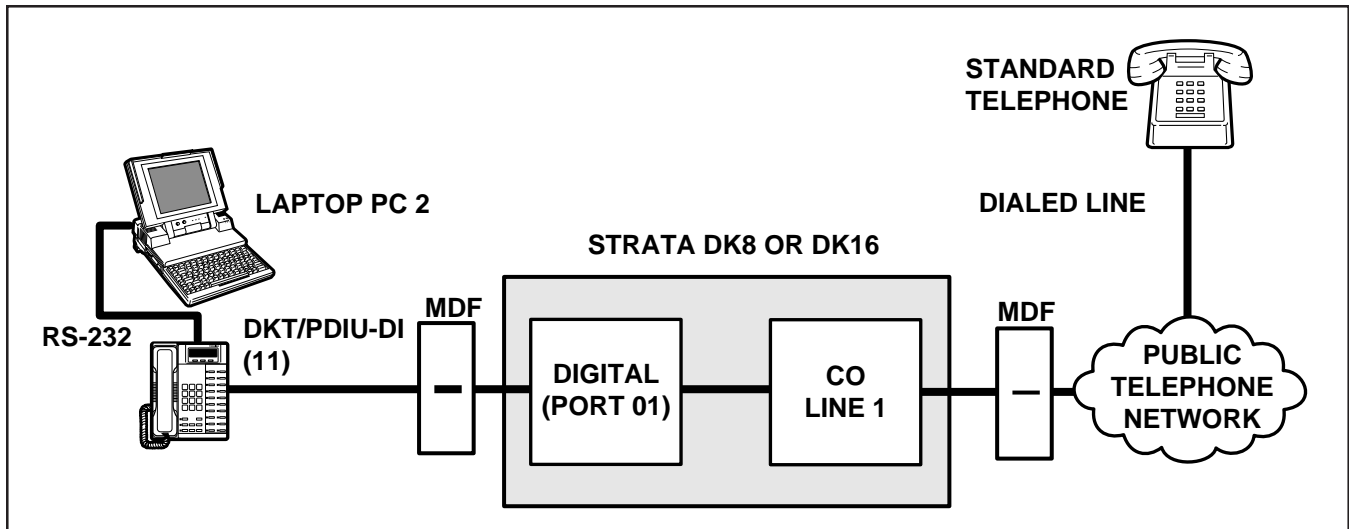

FIGURE 7-38
- 4) From PC 2's keyboard, type **ATDD10** and press **ENTER** (AT commands must be capital letters); this prompts PDIU-DS (14) to dial and connect to PDIU-DI (10).
- The CONNECT LED on the PDIU-DS (14) will be lit; the Data Call and Modem LEDs on DKT 10 will also be lit.
10.86 PC Auto Dial Voice Call Test (see Figure 7-38)